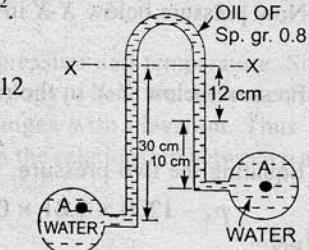

Fig. 2.22
**Problem 2.18** Water is flowing through two different pipes to which an inverted differential manometer having an oil of sp. gr. 0.8 is connected. The pressure head in the pipe A is 2 m of water, find the pressure in the pipe B for the manometer readings as shown in Fig. 2.22.
Fig. 2.22 shows the arrangement. Taking X-X as datum line.
**Problem 2.19** In Fig. 2.22, an inverted differential manometer is connected to two pipes A and B which convey water. The fluid in manometer is oil of sp. gr. 0.8. For the manometer readings shown in the figure, find the pressure difference between A and B.